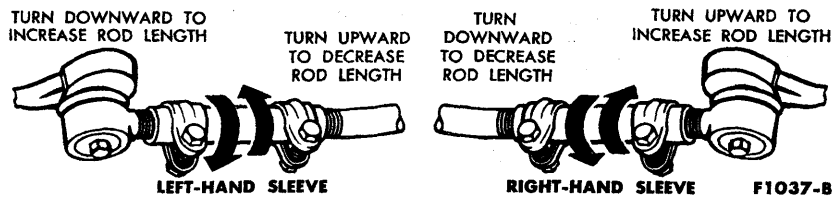

FIG. 3—Spindle Connecting Rod Adjustments
3. To adjust toe-in, loosen the two clamps on each spindle connecting rod sleeve. Lengthen or shorten both spindle connecting rods an equal amount to obtain the correct toe-in. Lengthening both rods increases toe-in. Shortening both rods decreases toe-in (Fig. 3).
1. Loosen the clamps on both spindle connecting rod sleeves (Fig. 3).